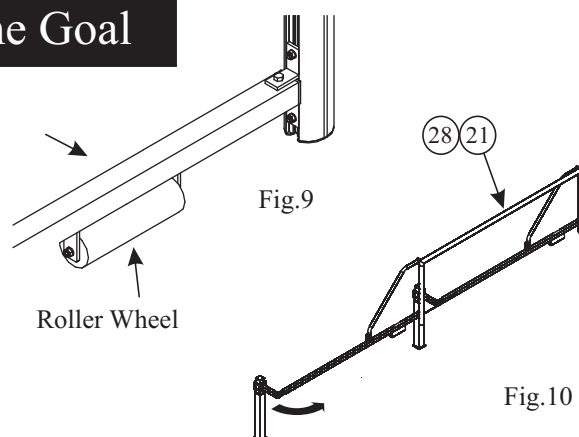

Fig.10
When the goal is in the folded position (as shown in Fig 10), fix the goal to the fence with the Chain (21) and Carabiner Clip (28) provided. To prevent unauthorized use of the goal you should replace the Carabiner Clip with a Padlock (not supplied).